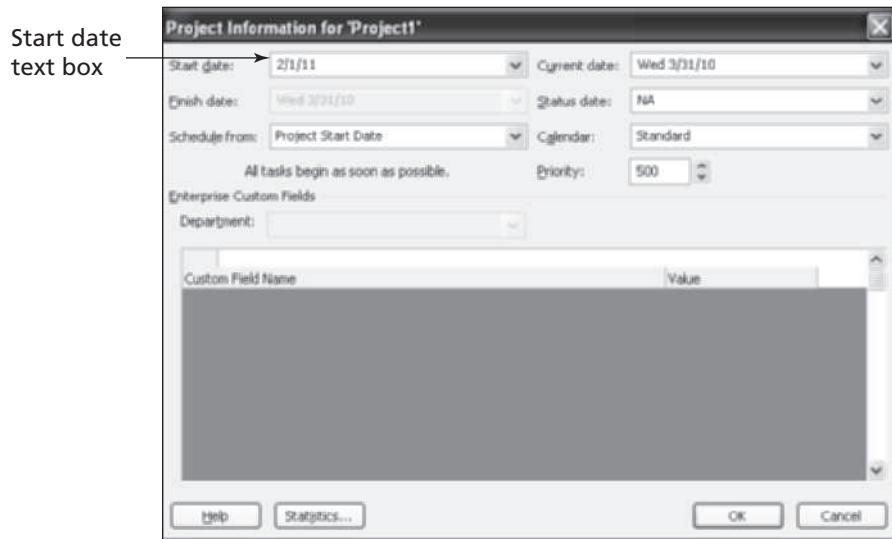

FIGURE A-16 Project Information dialog box
2. *Open the Project Information dialog box.* Click the **Project** tab, and then click **Project Information** to display the Project Information dialog box, as shown in Figure A-16. The Project Information dialog box enables you to set dates for the project, select the calendar to use, and view project statistics. The project start
date will default to today's date. Note that in Figure A-16 the file was created on 3/31/10 and a Start date of 2/1/11 was entered. (See the following Help box for information about changing date formats).